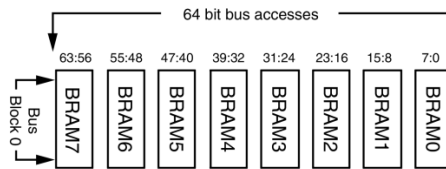

Figure 2: RAM Blocks [1]
- Bus block refers to the data bus. If the processor is running on 32 bit data width, the bus block should contain clarification of where a 32-bit of the address space are defined. To make it clear, a 32 bit can be stored in one 32-bit width storage unit, or can be stored in 4 8-bit width storage unit, or can be stored in 2 16-bit width storage unit. This is what should be declared in a bus block, to describe how the hardware developer has designed storage unit(s) of the processor data bus. It is common to build the target RAM using 8-bit width storage unit. Figure 2 depicts more illustration.
So bit_lane_definition means which hardware instance is used to store one byte. In the example of figure 2, 8 RAM instances shall be defined for the block bus. The depth of each instantiated RAM unit reflects only how many bus blocks should be defined to cover the whole Address Space.